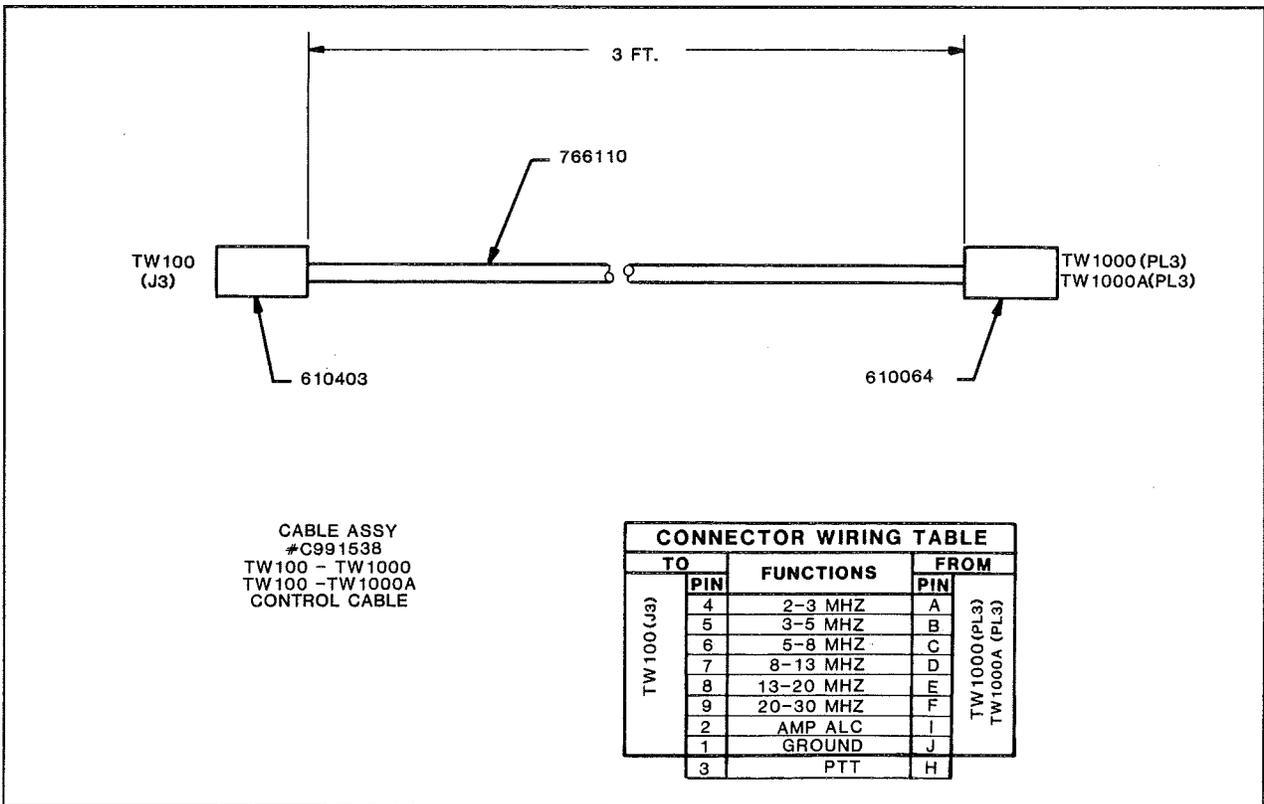

FIGURE 3-14. Control Cable (C991538).
3. C991538 -- See Figure 3-14.
2. C991538 -- See Figure 3-14.